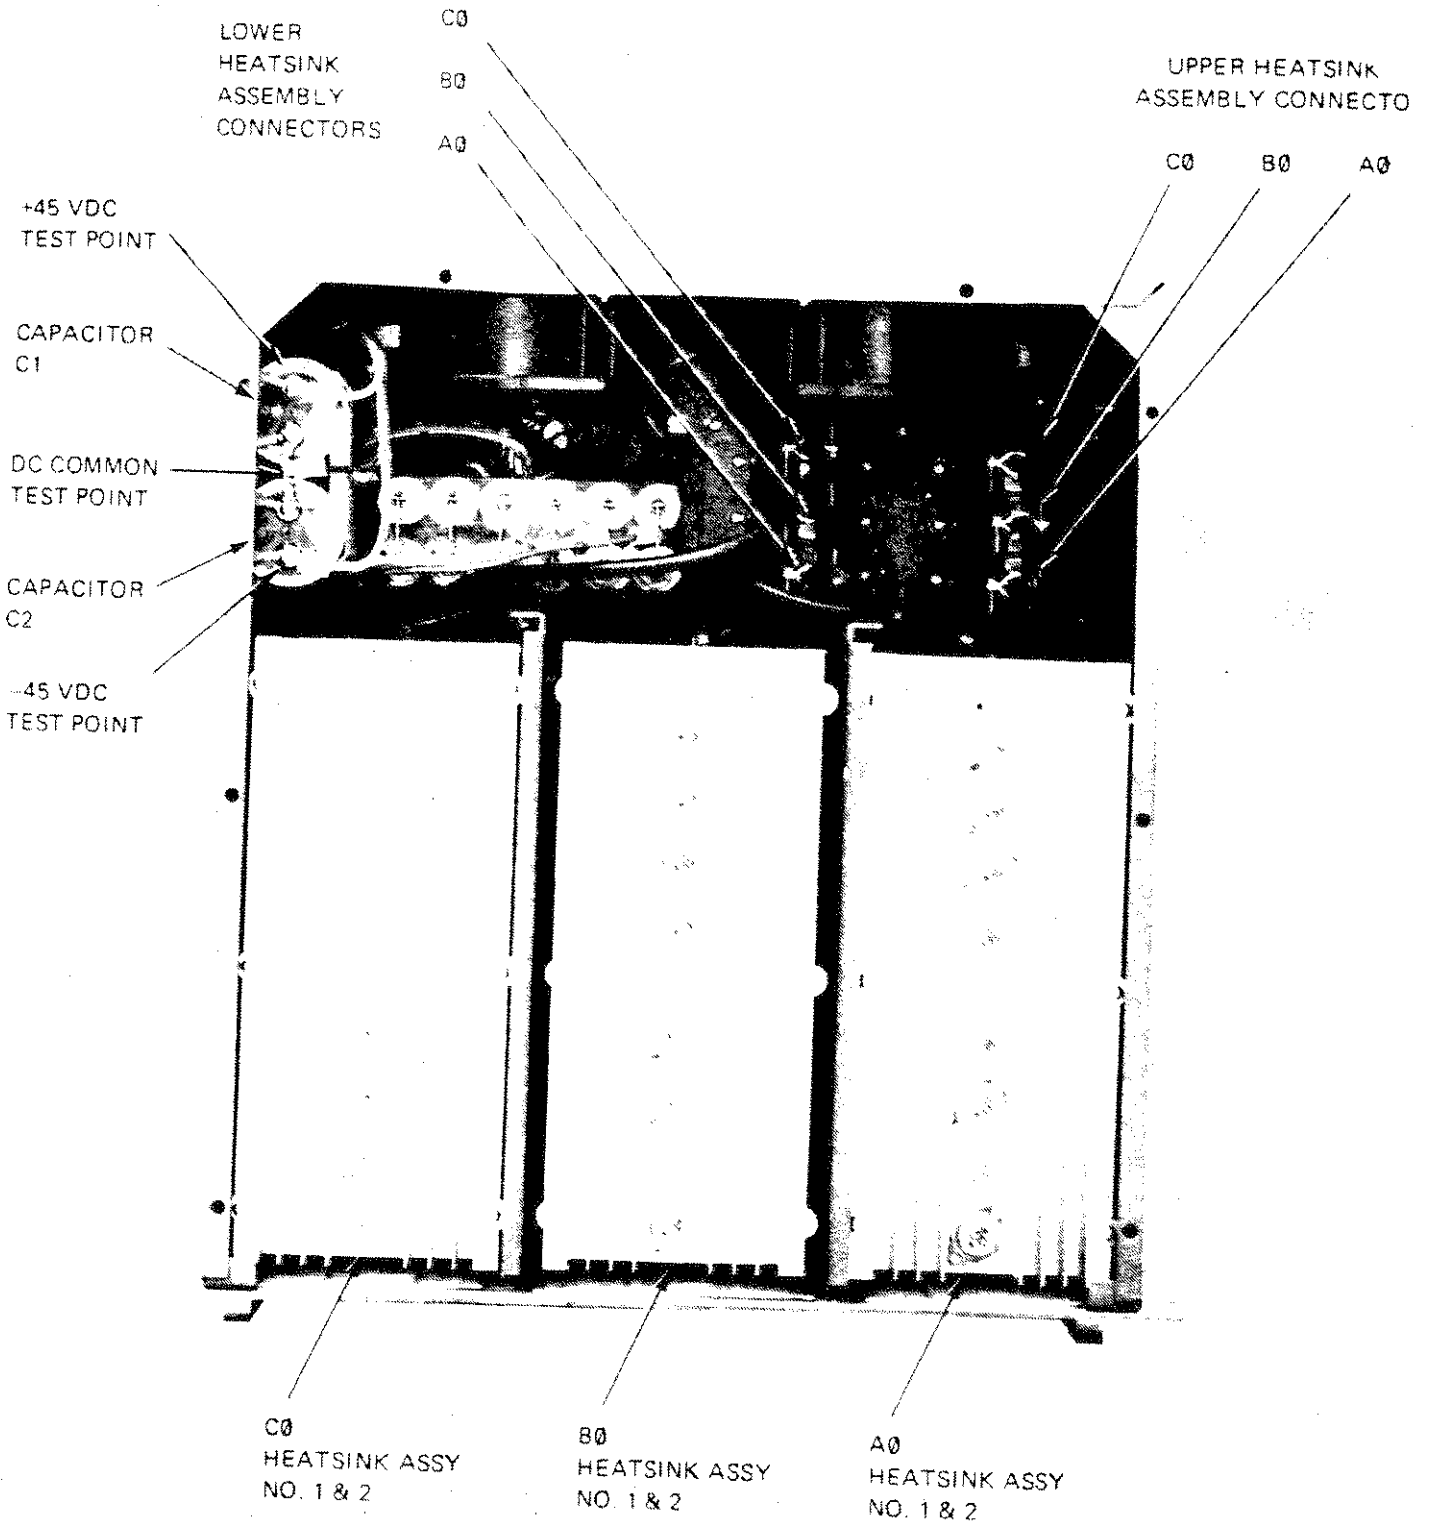

Figure 5-3. Model 1753B Bottom View
2. Connect three resistive loads each capable of dissipating 4.85 amperes. (See Figure 5-3).
3. Connect distortion analyzer to A phase output terminals. (See Figure 5-3).